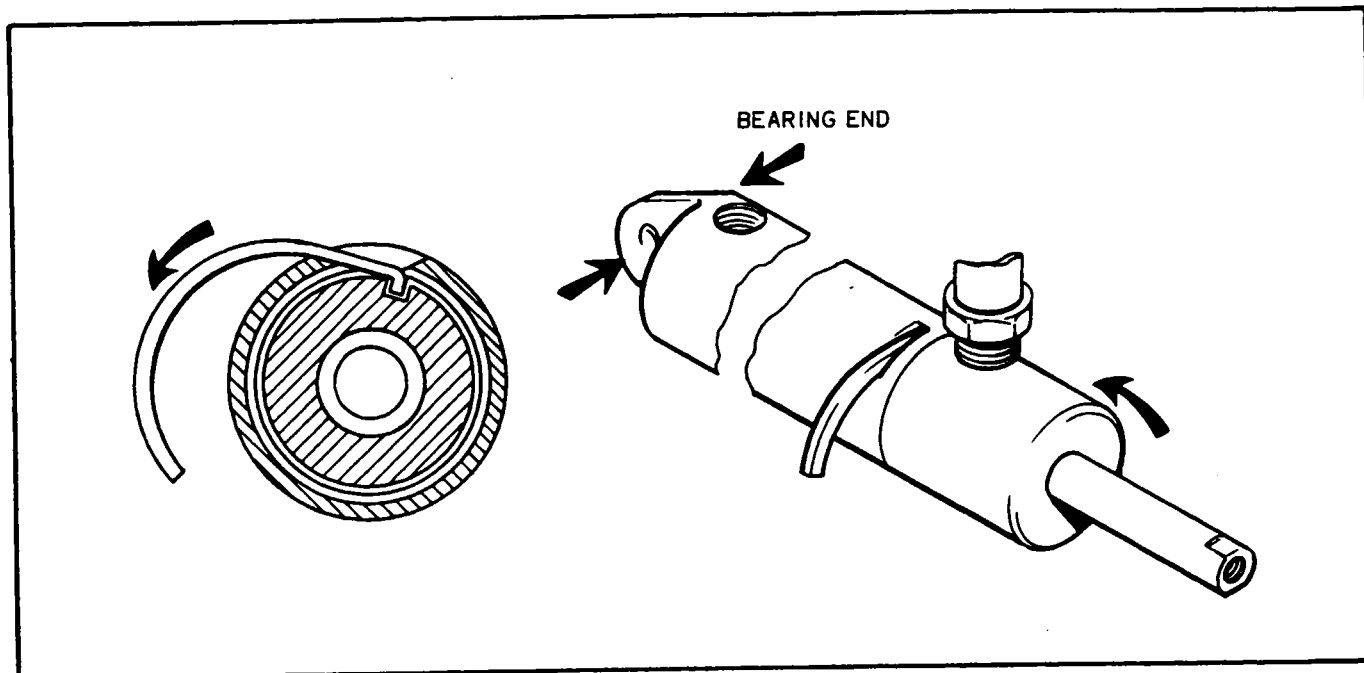

Figure 6-8. End Gland Locking Device
- a. Using hand pressure, push piston rod (6) toward clevis end (9) to remove oil from the cylinder.
- b. Place clevis in a soft jaw vise and clamp against the clevis bearing (10).
- c. Install any 1/8-27 pipe fitting into the port on the end gland. This fitting is used for leverage only and need not be tight. (Refer to Figure 6-8.)